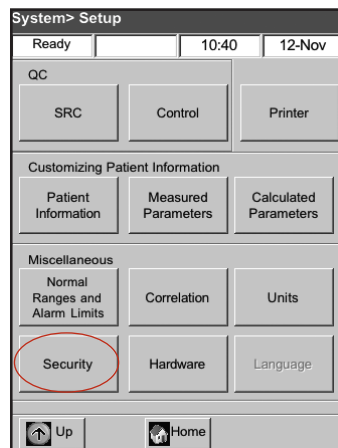

Figure H-19: System > Setup screen
3. From the Setup screen in the Miscellaneous section, tap **Security** (Figure H-19).